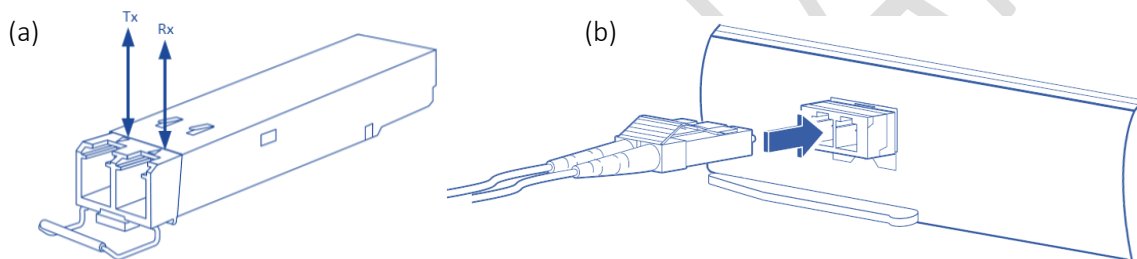

Figure 6 – Interface connecting to the SFP+ Module
- d. On Fiber channel 0 both the TX and RX fiber cables must be connected. On channels 1 through 3 only one fiber cable should be connected. This cable is connected between TX output (Marked with TX or Arrow outwards the SFP+) on the camera and RX input (Marked with RX or Arrow inwards the SFP+) on the Frame Grabber, as shown in Figure 6(a).
3. Insert the fiber cable into the module, as shown in Figure 6 (b).